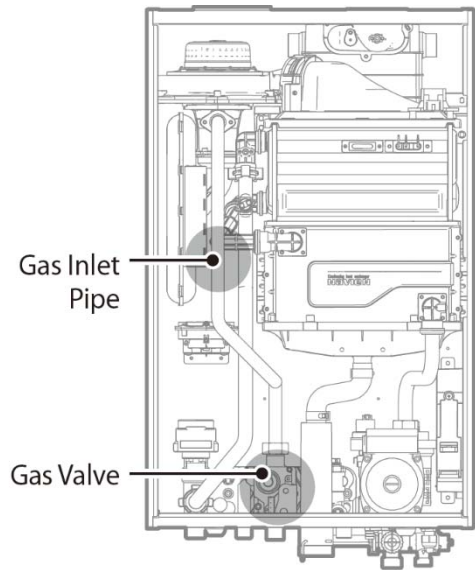
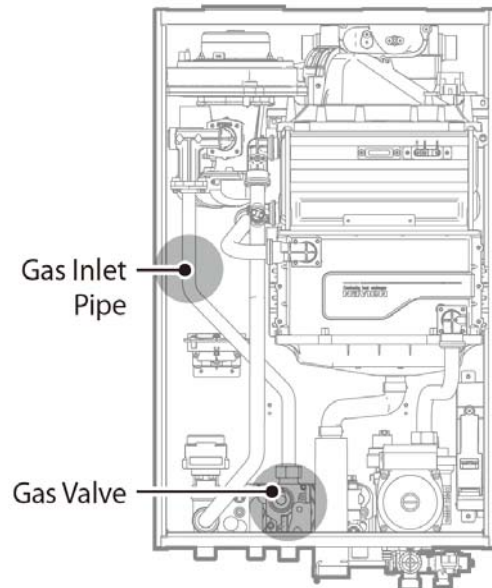

Figure 2-1. NCB-24/28/34LSWE Internal Components
Figure 2-2. NCB-40LSWE Internal Components
8. With the internal components exposed, locate the gas inlet pipe and the gas valve in the middle of the unit as shown in Figure 2-1 and Figure 2-2.